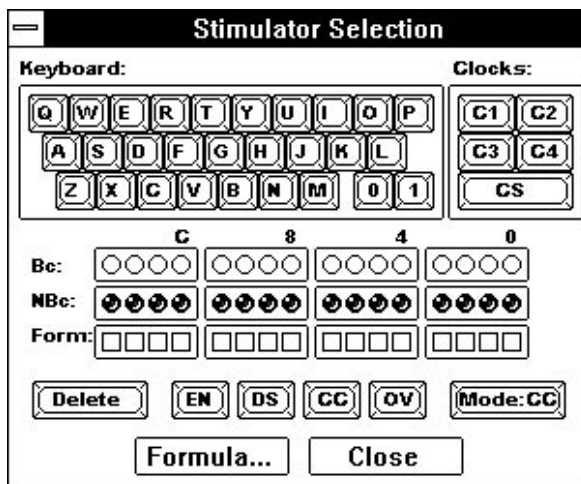

Figure 2-17. Stimulus window.
Developing signal waveforms is generally easier than developing test vector files, particularly for incremental design analysis. Figure 2-17 shows a test vector generator panel that pops up when you click on the Stimulus button or when you choose the Add Stimulators option from the Stimulator menu.
- ☐ Click on the selected signal and when it turns blue, click on the stimulus signal in Figure 2-17.
You can toggle the initial state of each bit of the binary counter by placing the cursor over the desired bit in the counter display (Figure 2-17) and pressing the mouse button. In response, the color of the selected LED will change to the opposite logical state.
point, select a signal in the **Signal** field and invoke the **Stimulus** window (Figure 2-17) by pressing the **Stimulus** button  or clicking on the Add Signals option in the Signals menu. Next, click on one of the keyboard keys shown in Figure 2-17, to assign it to the selected test point. In response, the selected character will be displayed next to the signal name in the **Stimulus** column (#17 in Figure 2-2).
You can assign a formula to a signal using the **Stimulator Selection** window in Figure 2-17. The square lights in the **Form:** field represent 16 formula-based stimulators that can be defined by the user.
To set a signal waveform to the override mode, select it in the **Signal** field and then click on the **OV** button in Figure 2-17. To disable or delete the overriding signal, select the signal in the **Signal** field and then click on the **DS** (disable) or **Delete** button, respectively, in Figure 2-17.
Each signal node is by default defined as **Chip Controlled**. This means that if any of the outputs in the node is active (has a state other than high impedance), then the stimulator is overridden by that output unless the stimulator is in the **Override** mode. To switch back to the **Chip Controlled** mode, click on the desired signal line and then on the **CC** (Chip Controlled) button in in Figure 2-17.